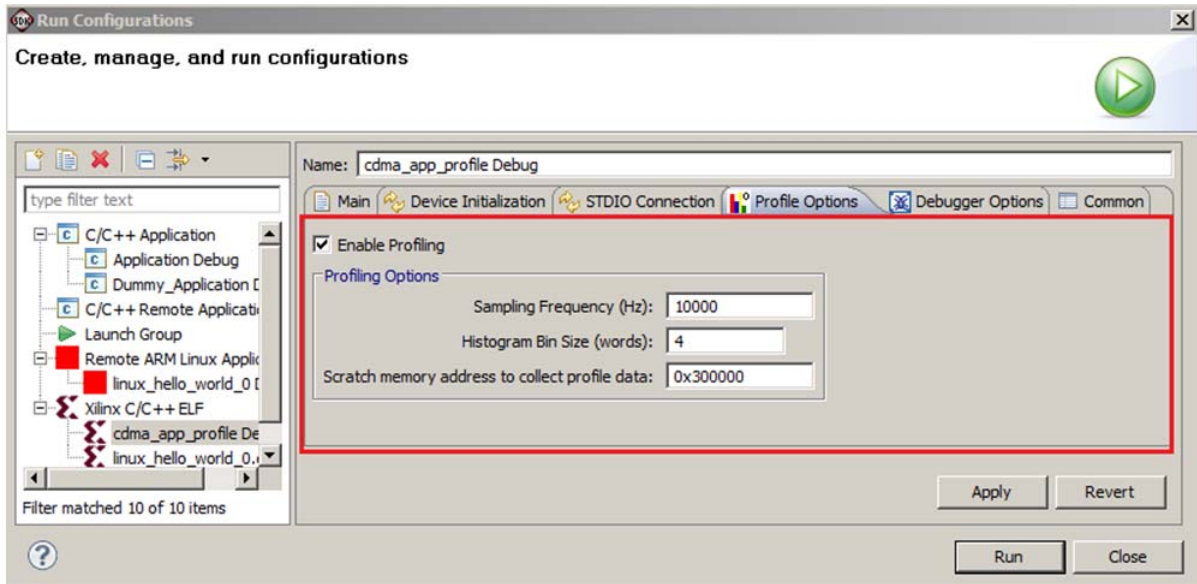

Figure 7-3: Enabling Profiling
6. Select the **Profile Options** tab and set the following parameters, as shown in Figure 7-3, page 68: